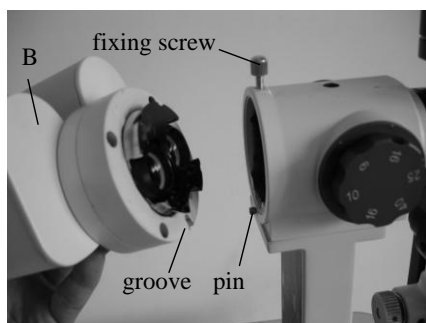

Fig.9
6) Assembling the Converging Binocular Tubes (B)
- ♦ Match the groove on the binocular tubes with the pin on the microscope body.(Fig.9)